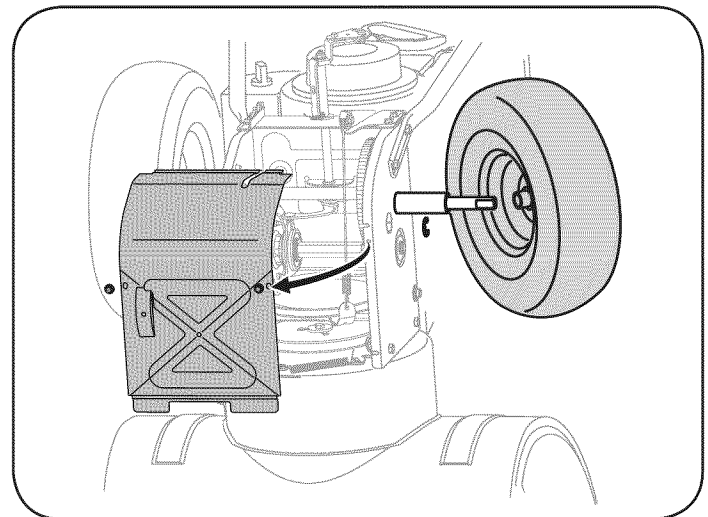

Figure 31
- Remove the right-hand wheel by removing the screw and bell washer which secure it to the axle. See Figure 31.